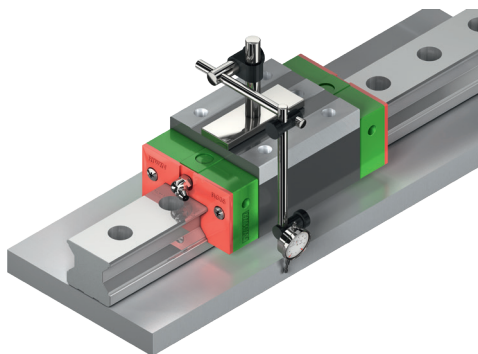

Fig. 5.8 Block with mounted dial gauge
- ▶ Align the dial gauge with a reference edge as in Figure 5.8.